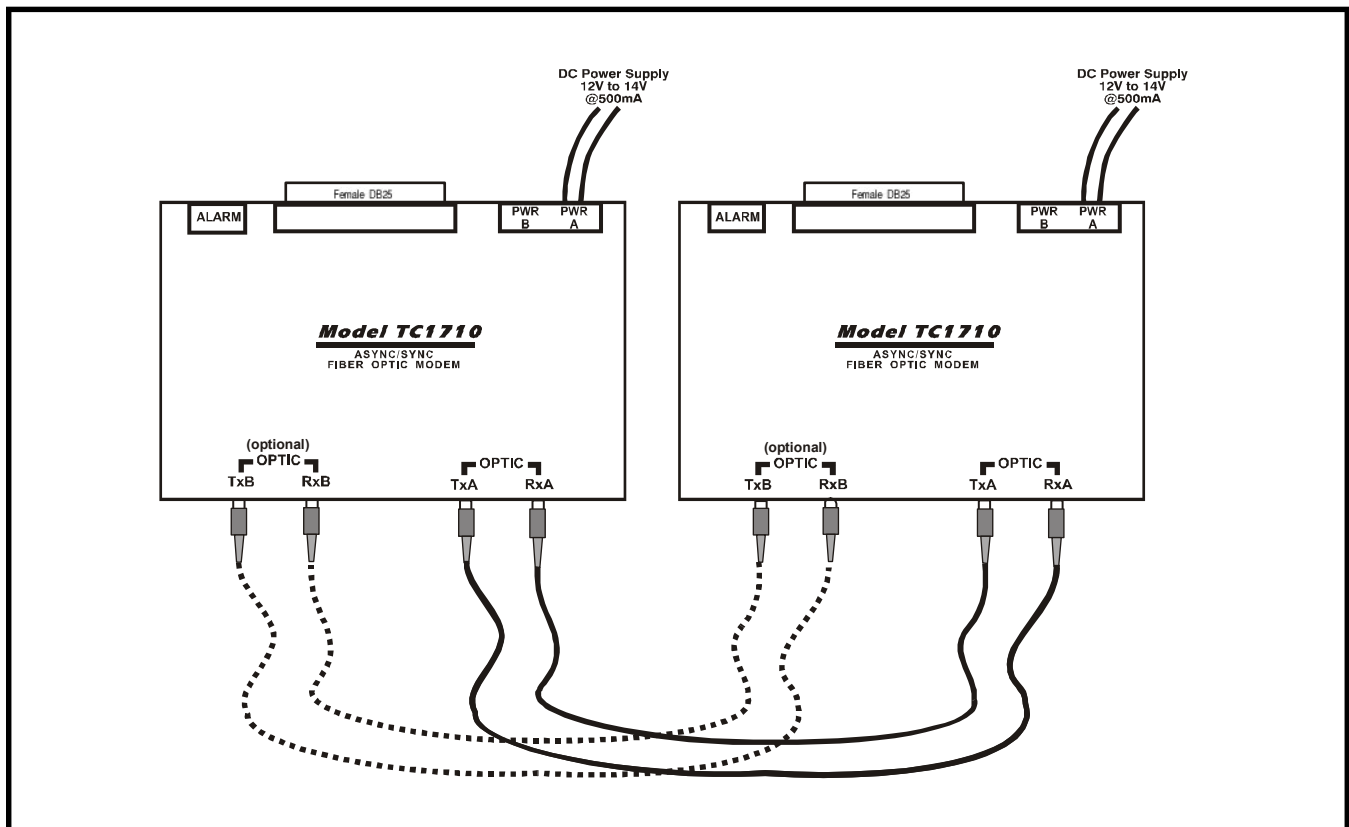

Figure 9. Signal Generator Bench Test Connection Diagram
1. Setup the bench test as shown in figure 9.